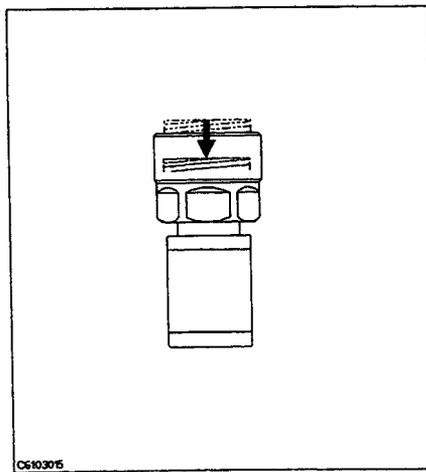

Figure 3-9.
12. Verify that the connector sleeve is retracted fully as shown in Figure 3-9.